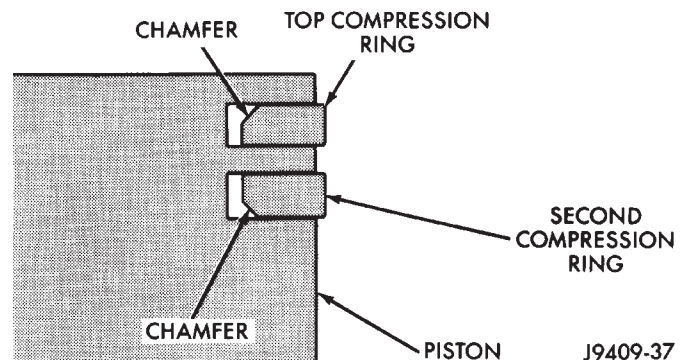

Fig. 15 Compression Ring Chamfer Location
(7) The second compression ring (black cast iron) has a chamfer on the **BOTTOM** of the inside edge (Fig. 15). This ring may also have 2 dots located on the top surface.
(8) Using a ring installer, install the second compression ring with the chamfer facing down (Fig. 15). The two dots will be facing up.
(9) The top compression ring (the scraping edge is gray in color) has a chamfer on the **TOP** of the inside
edge (Fig. 15). This ring may also have 1 dot located on the top surface.